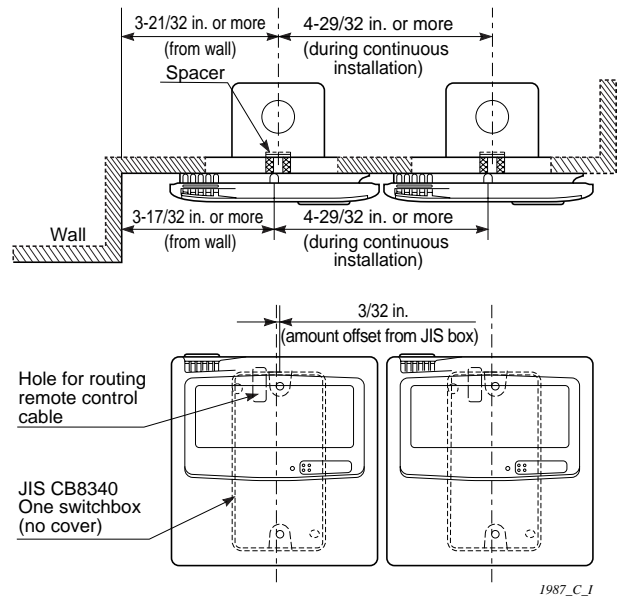
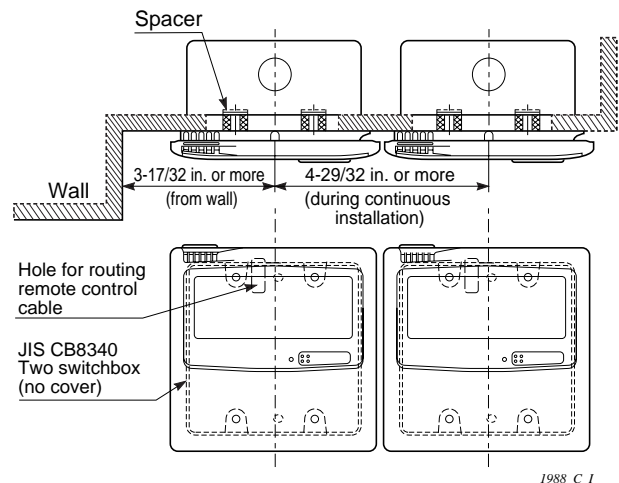

Fig. 6-1
Fig. 6-2
- When mounting the remote controller on a wall, please see Fig. 6-1 and Fig.6-2.